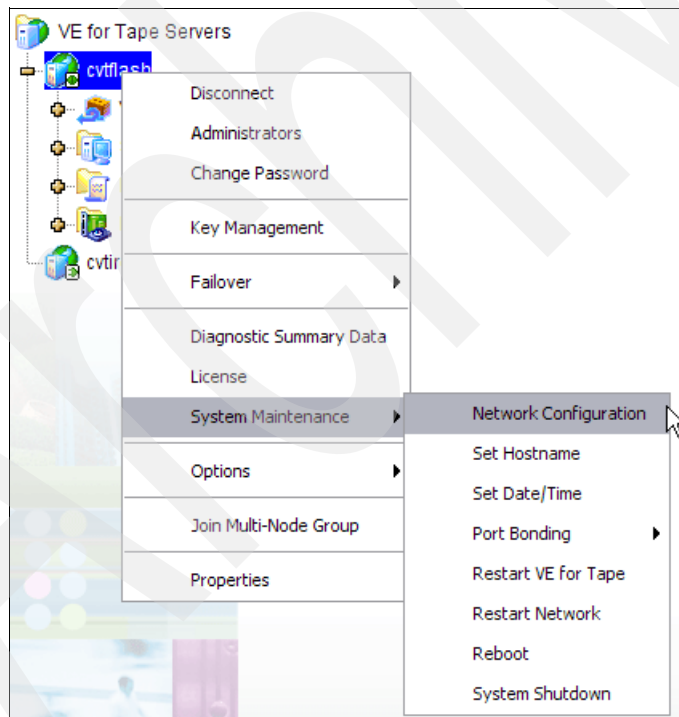

Figure 6-28 Network Configuration menu
1. Right-click <your TS7530 server>, then select **System Maintenance** → **Network Configuration** from the panel shown in Figure 6-28.